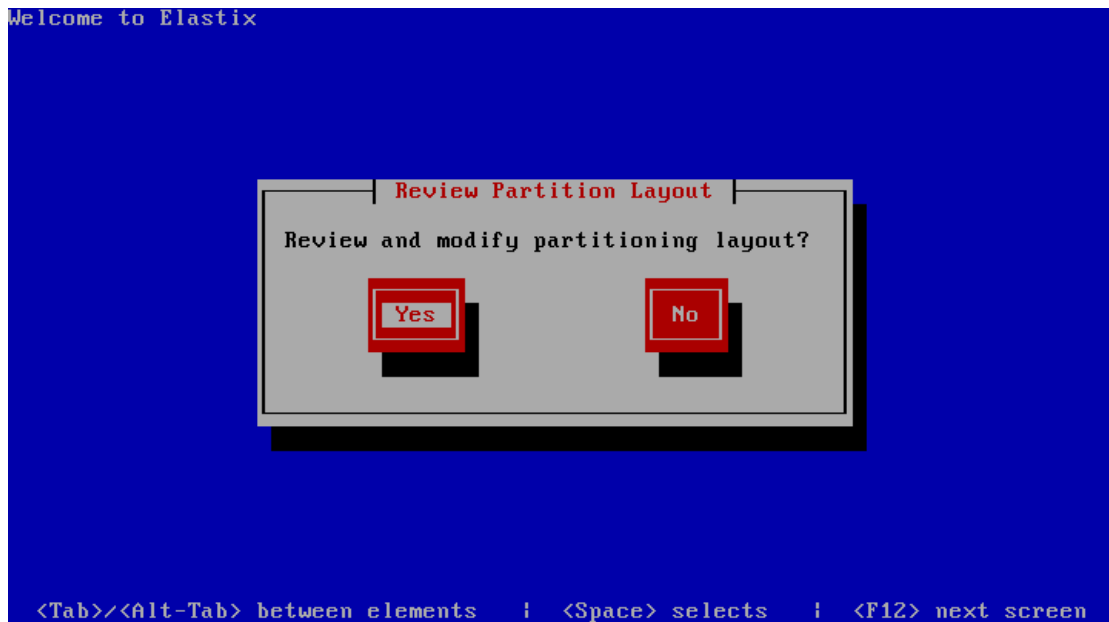

Figure 5
5. Next, the following prompt 'Review and modify partitioning layout?' pops up. Select 'No' here (Figure 5).